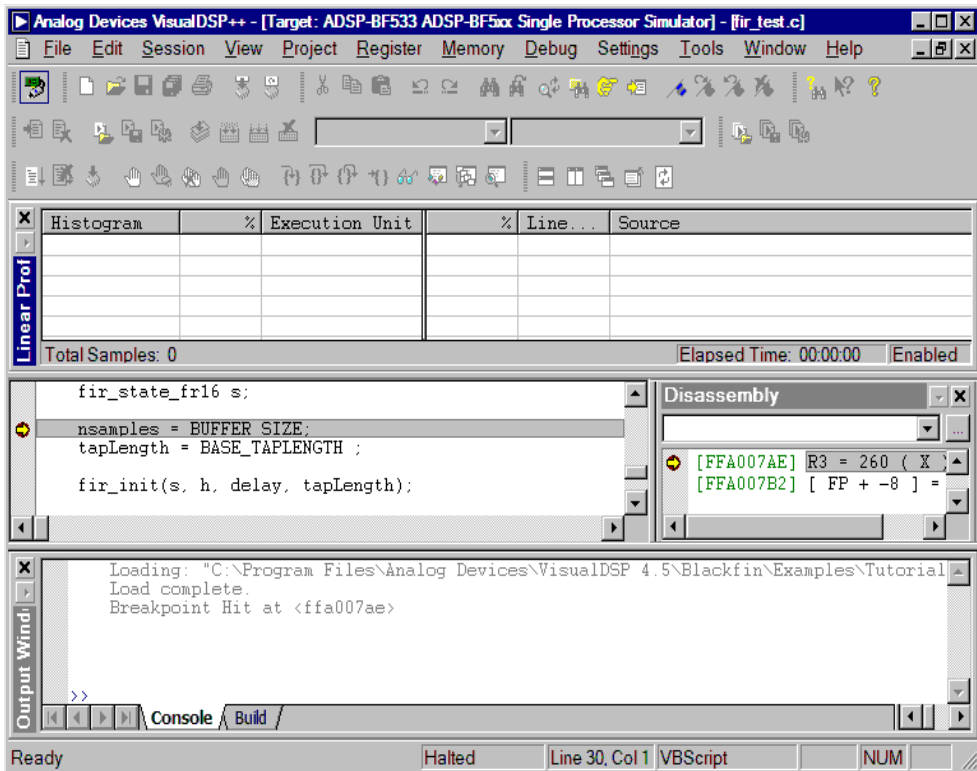

Figure 2-34. Linear Profiling Results Window (Empty)
If VisualDSP++ does not open an editor window (shown in Figure 2-34), right-click in the **Disassembly** window and select **View Source**.
2. Click in the profiling window's title bar and then drag and drop the window to the top of the VisualDSP++ main window, as shown in Figure 2-34. You will have a better view of the profile data.